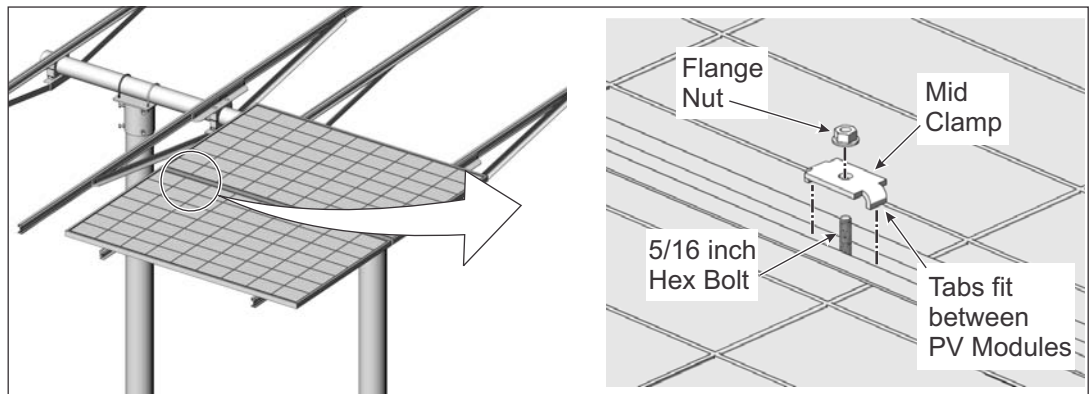

Figure 7-6: Installing Mid Clamps
- D. Install one Mid Clamp on each of the 5/16" bolts that are between each of the interior Modules. Be sure that the tabs of the Mid Clamp rest between the two Modules. Secure each of the Mid Clamps with a 5/16" flange nut. **Torque Mid Clamps to 14-16 ft.-lbs.** (See Figure 7-6)